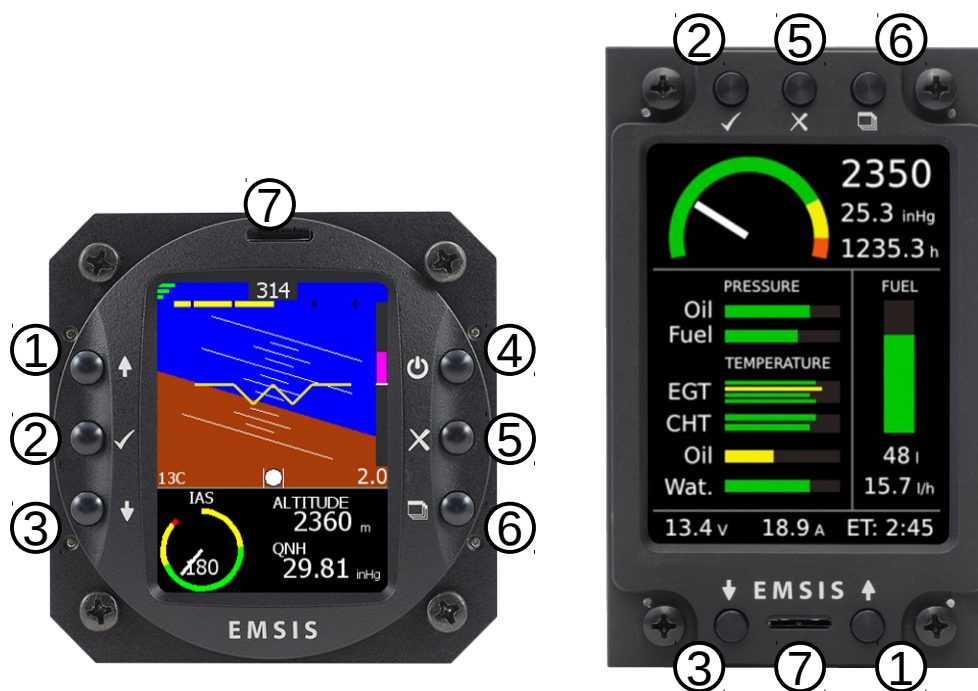

Figure 1: Organization of EMSIS front panel. EMSIS 80 mm version (left), EMSIS 3.5" screen version (right).
The EMSIS command panel is organized according to Figure 1. It uses six (80 mm version) or five (3.5" screen version) small push buttons to manipulate the user interface. Additionally, it has SD card slot for software, maps and data updates.
- Long press on the *page selector* button (see Figure 1, button 6) opens the fuel quantity window. This window accessible only when no fuel level sensors are connected and thus a software fuel tank is provided.